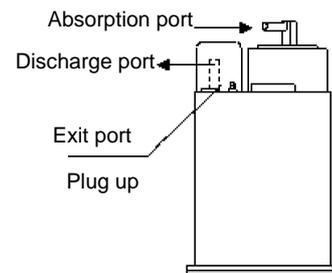

Figure 3-15
(3) Clean the canister: Block the desorption port, blow air (4.71KPa, 48kgf/cm2) into the absorption port, and the air should flow from the discharge port (see Figure 3-15).